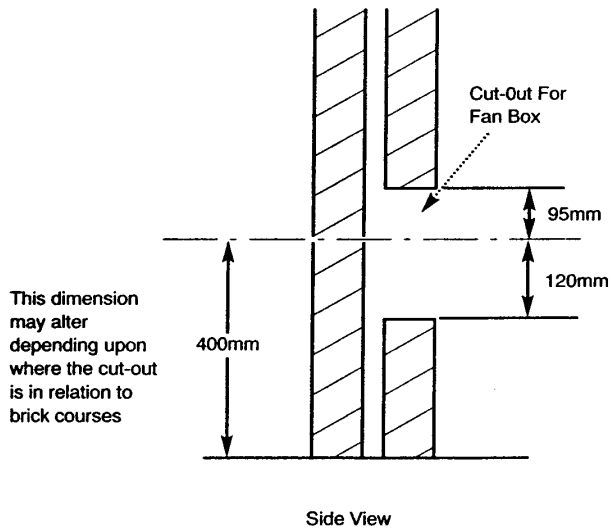

Fig. 14
4. Measure 400mm up from hearth level and mark this dimension on the wall. Drill through the inner and outer walls at the mark using a suitable pilot drill at a point corresponding to the centre line of the fire flue outlet (Fig. 14).
2. A hole 100mm diameter must be cut centrally in the rear panel of the liner for the flue duct. The height of the hole should be the height at which the pilot hole is to be drilled, or at its' adjusted position-see paragraph 4 to 7 below and Fig. 14. Also a hole approximately 35mm diameter should be cut in the lower right of the liner to accept the electrical cables.